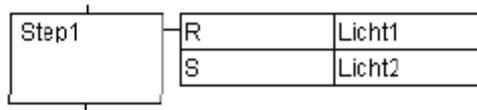

Figure 9-4-2 Example in SFC
- An example of IEC step with two actions is shown in figure 9-4-2.